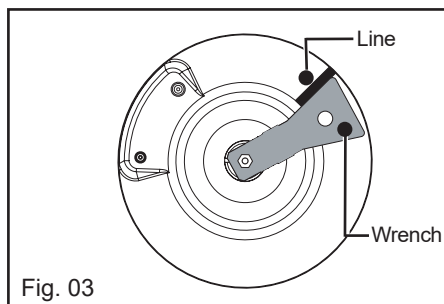

Fig. 03
- Turn the wrench clockwise until the line appears on the opposite side of the key (Fig. 03).